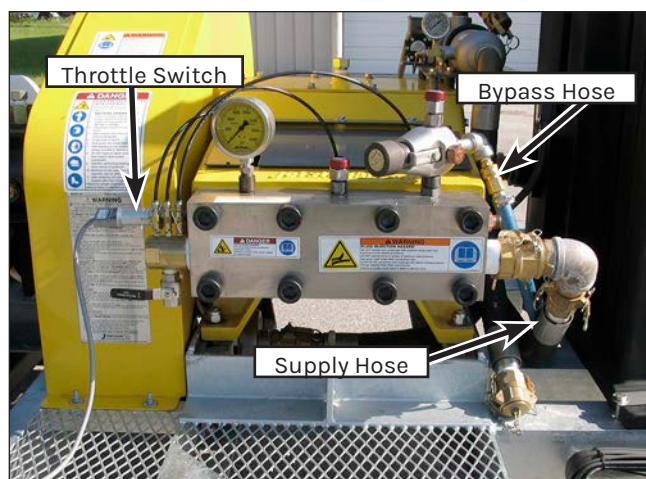

Figure 171: Pump Removal Preparation.
2. Remove the bypass hose and supply hose (Figure 171). If the supply hose is connected to the secondary filter, disconnect it from the filter.